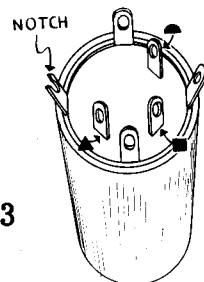

Figure 13
- () Connect the first red wire to V5-4 (S).
- () Connect the second red wire to V5-6 (S).
- () Connect the first yellow wire to V5-2 (NS).
- () Connect the second yellow wire to V5-8 (S).
- () Using diagonal cutters, cut a notch in mounting lug G4 on condenser G. See Figure 13.